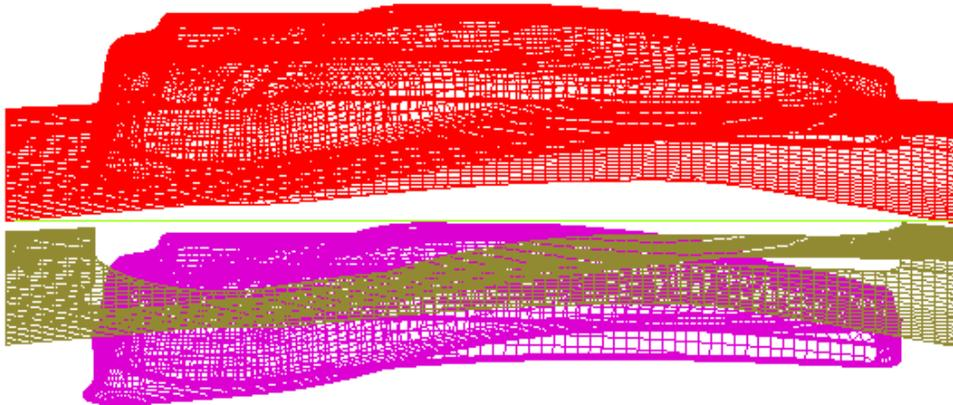

Figure 1.33 The relative position of tools and blank after positioning
- Click  icon on the **Icon bar** to display the relative position of tools and blank(s), as shown in Figure 1.33.